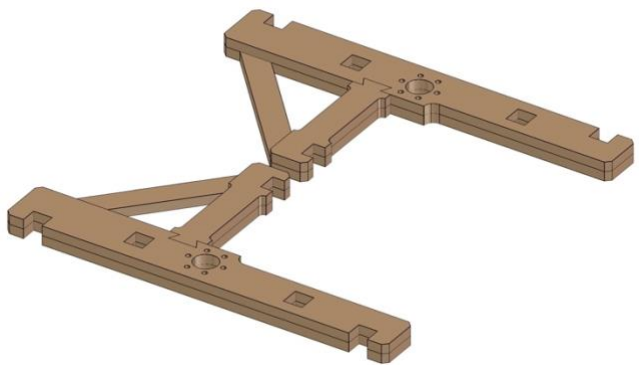

Fig. 8
- *Fig. 8* shows the completed process (make two parts).